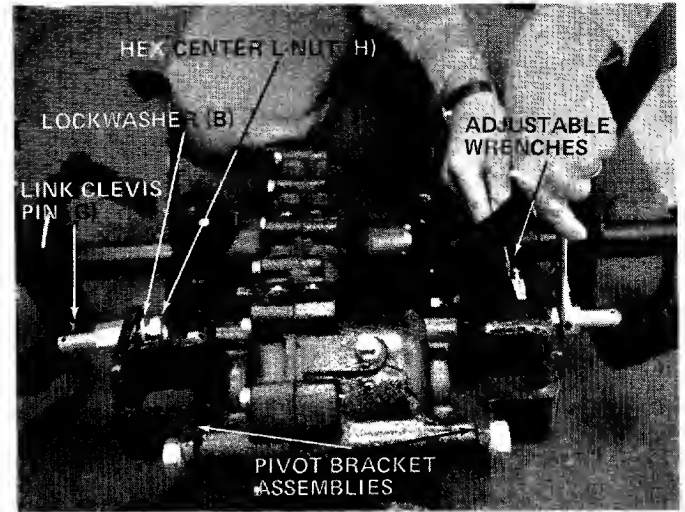

FIGURE 6
5. Insert link clevis pins (G) through outside holes of pivot bracket assemblies. Using two adjustable wrenches, tighten link clevis pins in place with lockwashers 5/8" (B) and hex center lock nuts 5/8-18 (H). See figure 6.